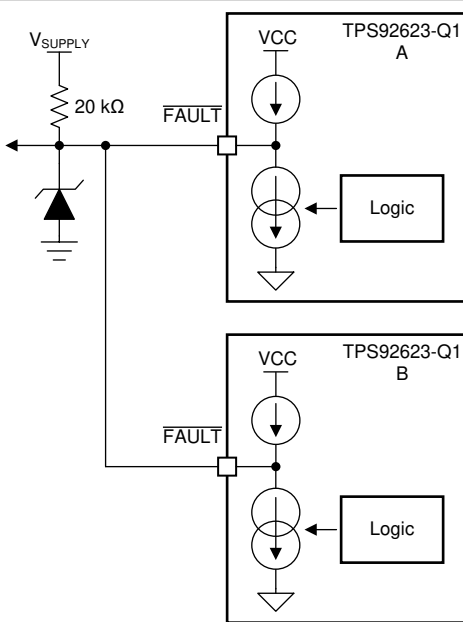

Figure 7-6. FAULT Bus for One-Fails-All-Fail Application
Based on this feature, the TPS92623-Q1 device is able to construct a FAULT bus by tying $\overline{\text{FAULT}}$ pins from multiple TPS92623-Q1 devices to achieve one-fails-all-fail function as Figure 7-6 showing. The lower side TPS92623-Q1 (B) detects any kind of LED fault and pulls low the $\overline{\text{FAULT}}$ pin. The low voltage on $\overline{\text{FAULT}}$ pin